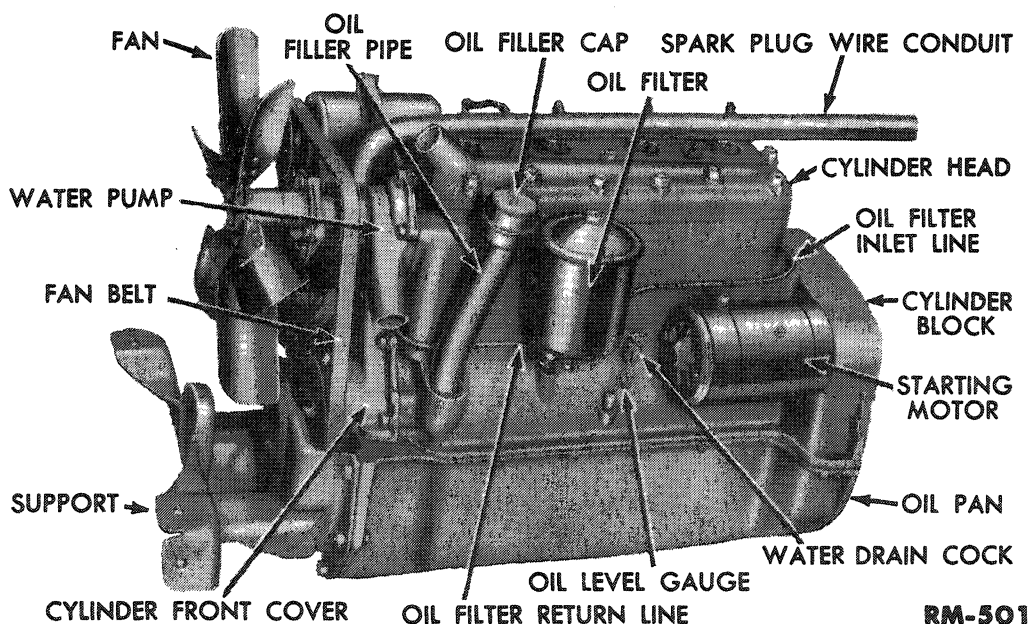

Fig. 1—Left $\frac{3}{4}$ Front View of Engine
The Ford 4-cylinder engine (figs. 1 and 2) is of the L-head type, having all cylinders and the upper half of the crankcase cast in one piece. Steel cylinder sleeves are used, which are easily replaced when rebuilding the engine. The distributor is driven directly from the front end of the camshaft.
b. Remove Oil Filter. Disconnect the oil inlet line at the cylinder block. Disconnect the oil return line from the governor. Remove the two cap screws that secure the oil filter bracket to the cylinder head. Remove the oil filter and lines (fig. 1).
e. Remove Starting Motor. Loosen the two starting motor cap screws until the starting motor is free of the clutch housing. Lift the starting motor from the engine (fig. 1).